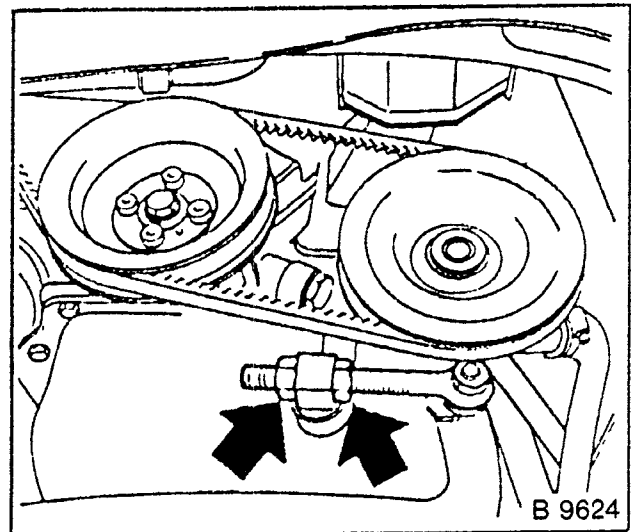

Fig. 91
2. Loosen bolts (1), (2), (3).
3. Loosen tensioning screw nuts (Fig 91).